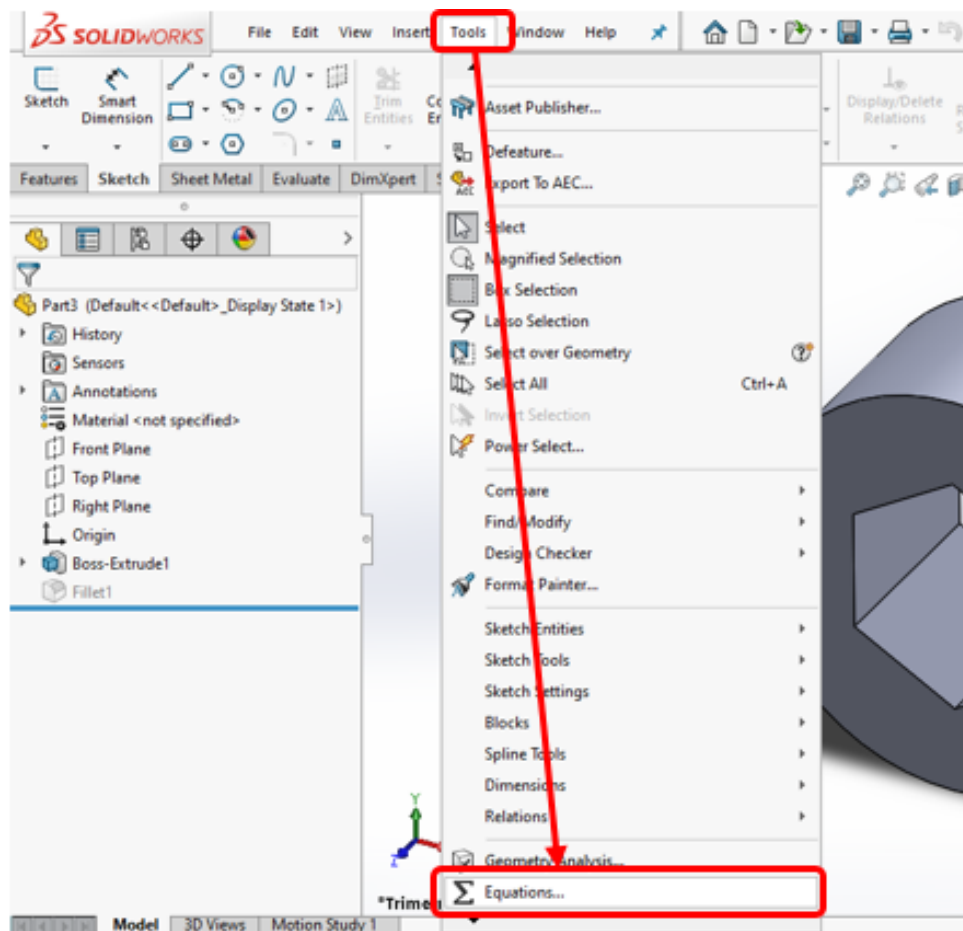

Figure 29 – Adding the *Equations*
1. To do this, select the Σ *Equations* item on the *Tools* tab main menu (Fig. 29).